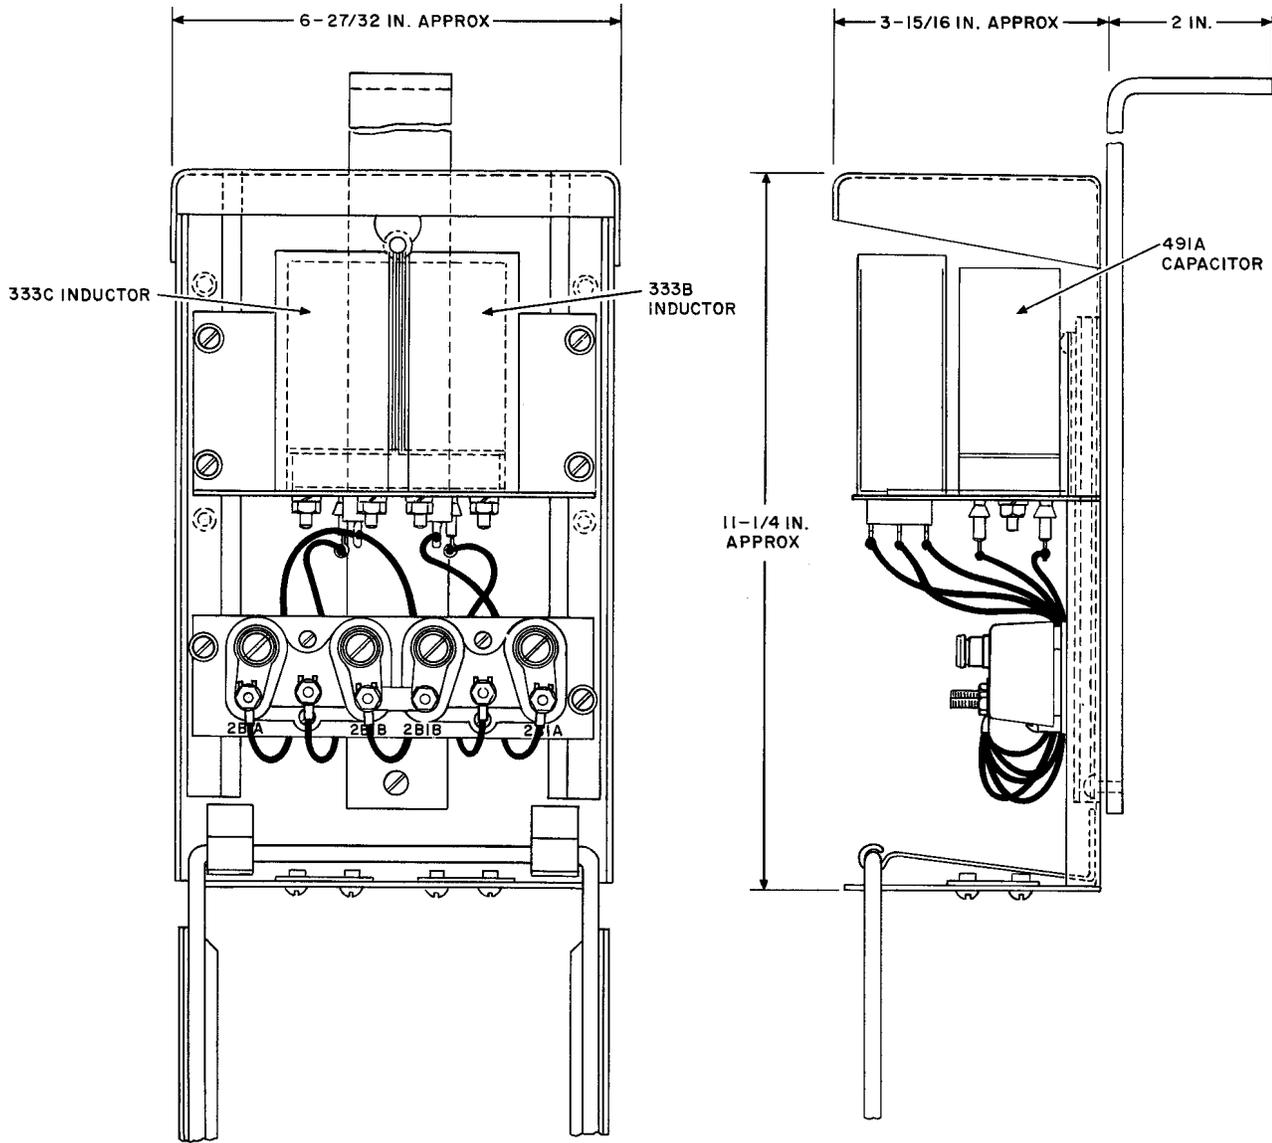

Fig. 3—108C Protector
4.01 The 108-type protector consists of an assembly of inductors, capacitors, and protector units mounted in a galvanized steel housing as shown in Fig. 3. Wire entrance holes in the bottom of the housing have temporary putty fillings or rubber grommets.